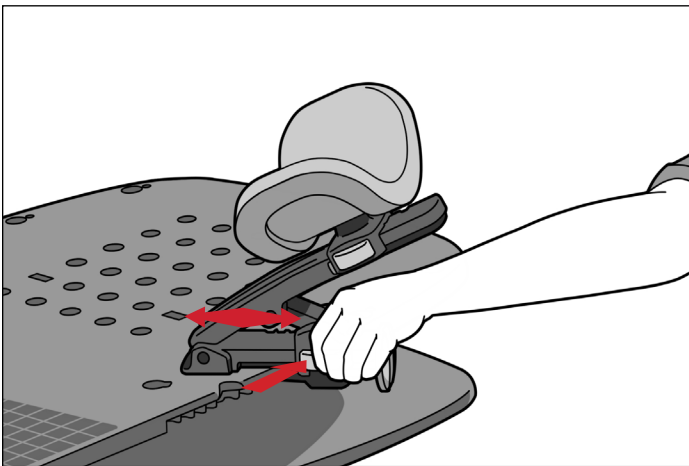

FIG. 13
3. To adjust the height, depress the button located on the height slider and slide along the arm, releasing the button once in the desired position. (Fig. 13)